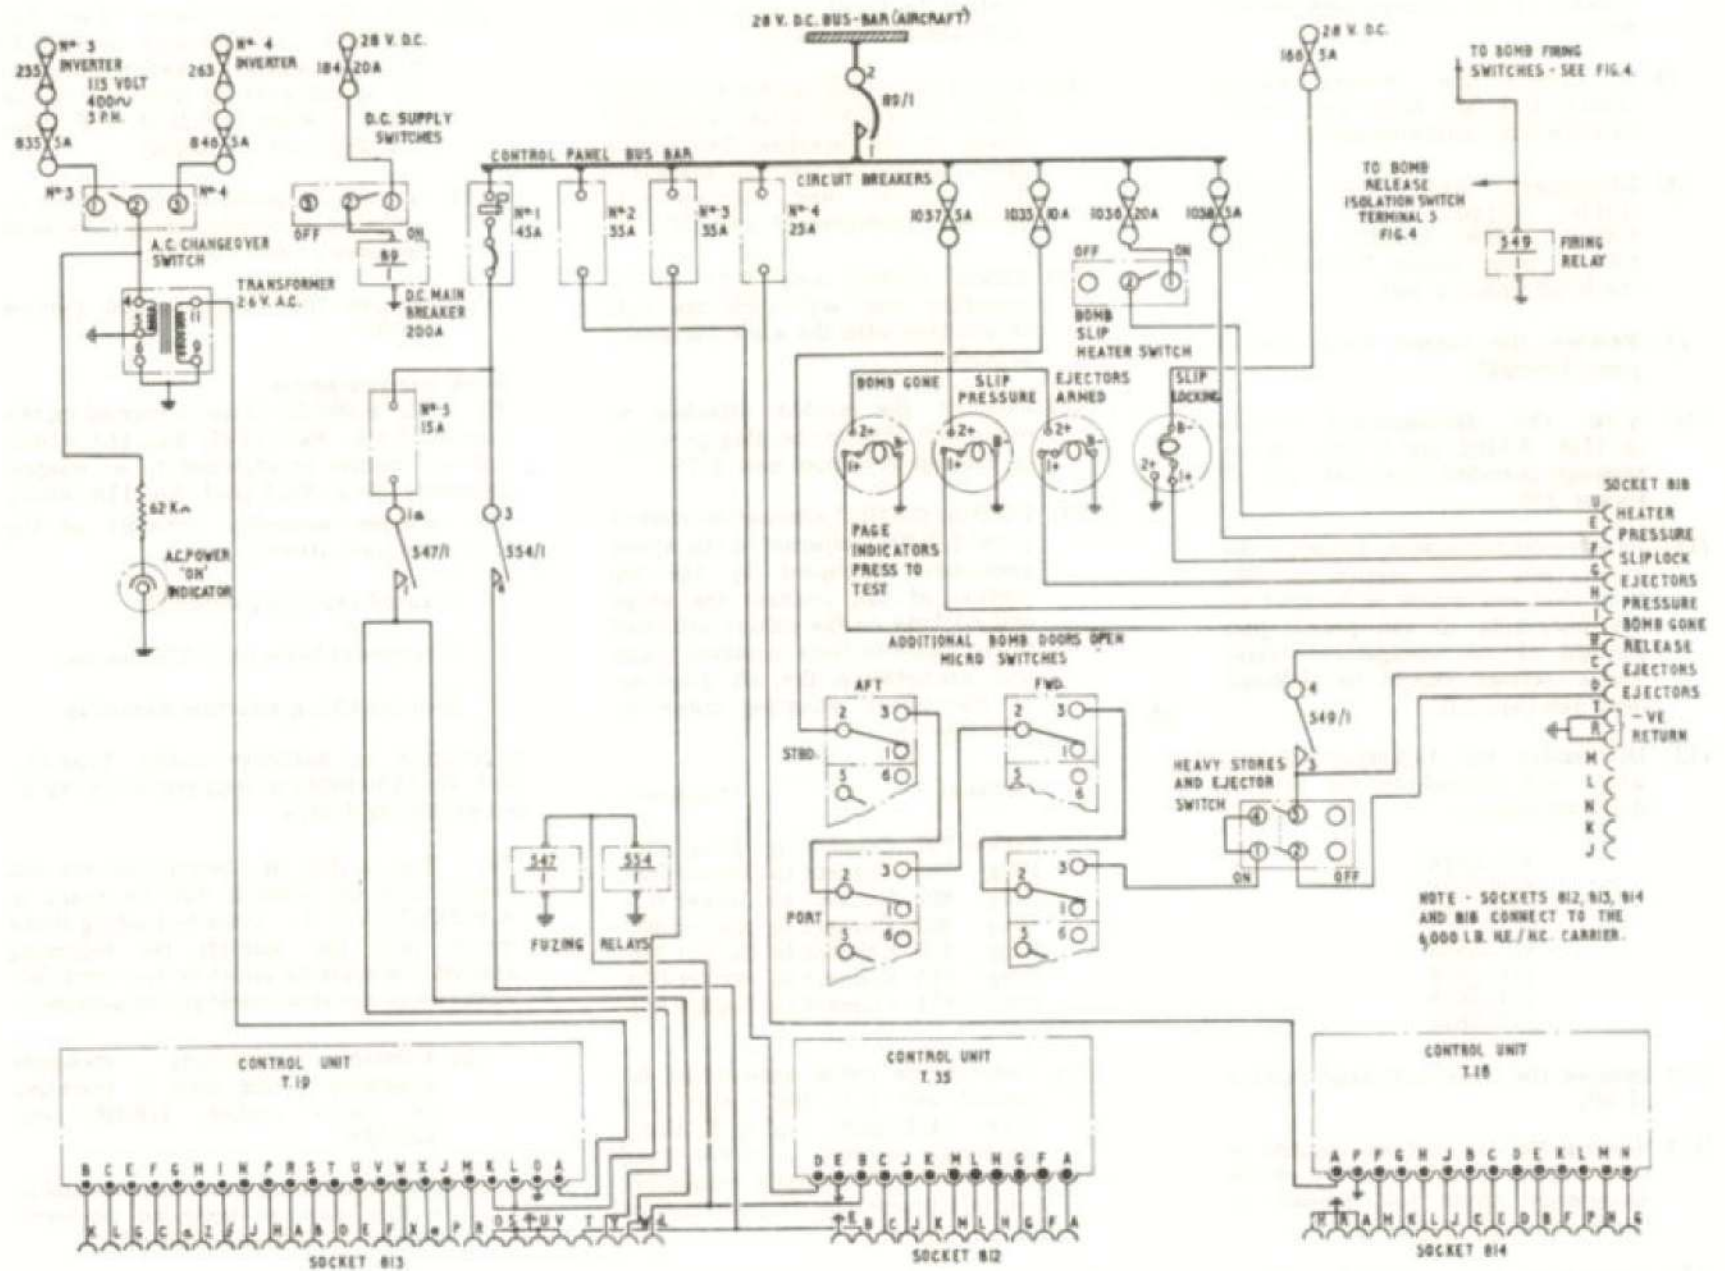

Fig 5 6,000 lb. control and release circuit
- (16) Install the mounting tray for control unit T.19 (fig.5) on the navigators' table in the aperture behind the fixed portion of the 9P, using the four screws and captive nuts provided (sub-para.14 and 15).
- (17) Attach control unit T.19 to its mounting tray and lock the unit in position with the slide fasteners provided.
- (18) Connect the socket attached to cable 5/F.2616 to the plug provided on the top of control unit T.19.
- (19) Position the No.1 alternative control panel 1/V8963 adjacent to the space previously occupied by the top portion of 9P; connect the plugs and sockets on the cables attached to the panel to their mounting plugs and sockets on the aft diaphragm of the panel mounting frame as follows:-
34. The circuit operation contained in the following paragraphs should be read in conjunction with the theoretical diagram, fig.5 and the associated routing chart fig.11.
35. Referring to fig.5, it will be seen that the control bus-bar is not 'live' until the D.C. SUPPLY switch has been selected ON. However, as soon as the aircraft 28-volt bus-bar is 'live' the slip locking pin indication circuit will be energised,